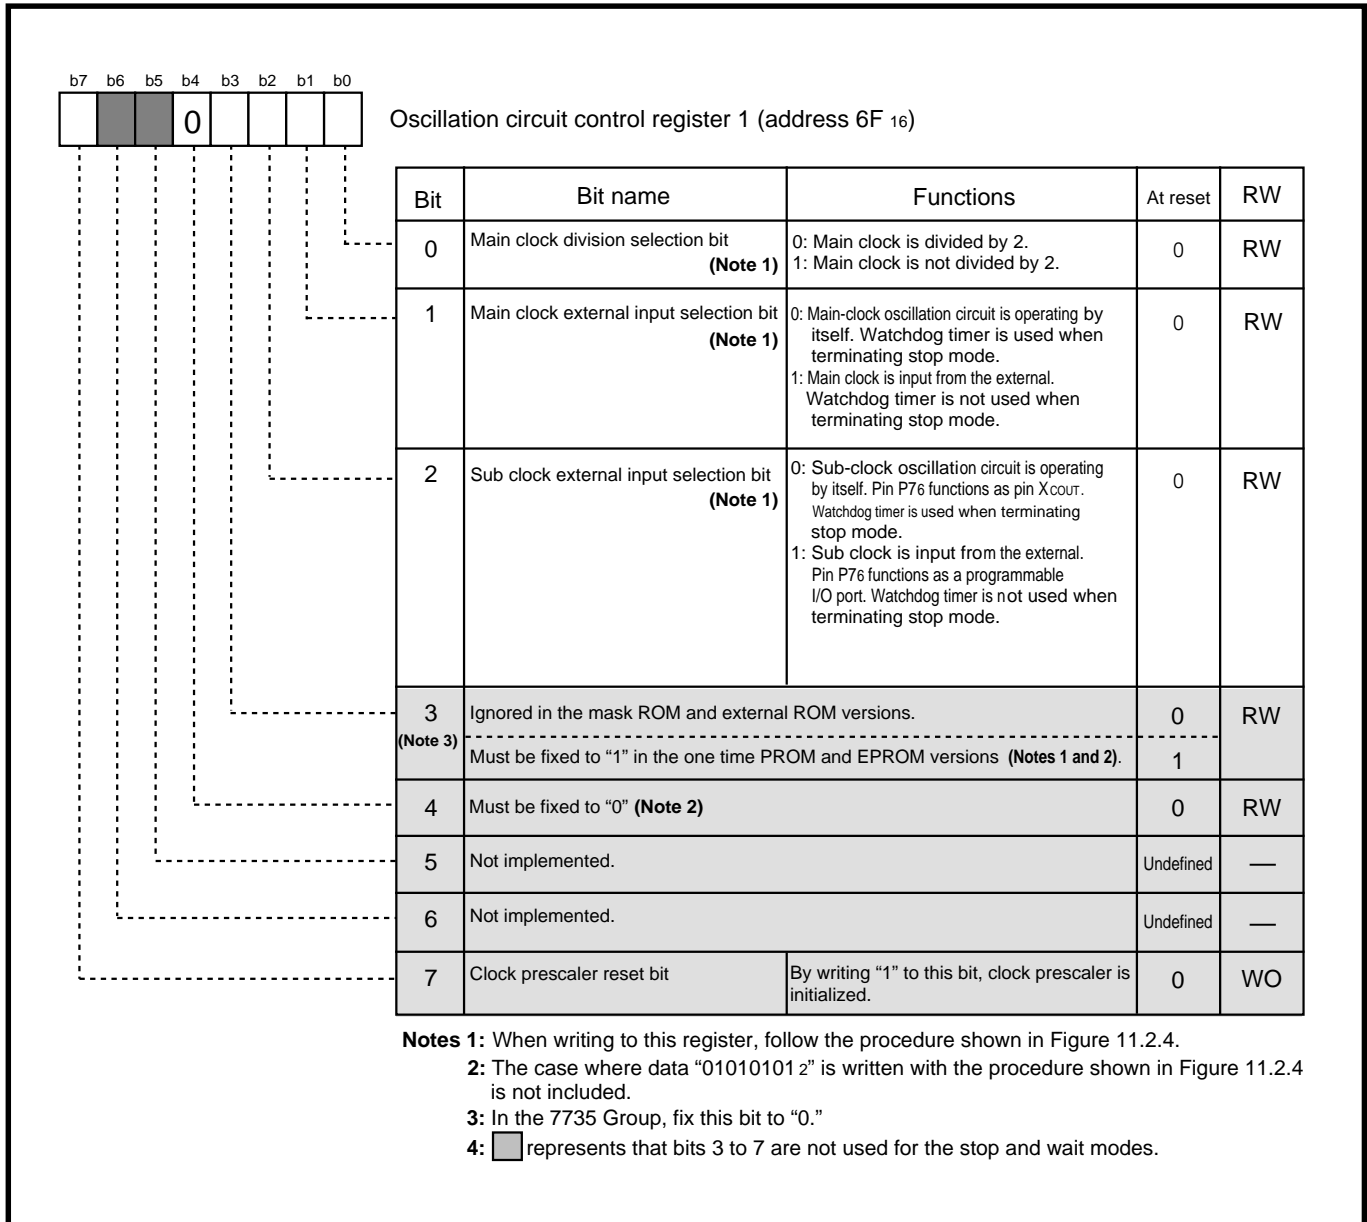

Fig. 11.2.3 Structure of oscillation circuit control register 1
(Refer to **Figure 11.2.3**, sections “**11.3.2 Stop mode terminating operation by interrupt request occurrence (when using watchdog timer)**” and “**11.3.3 Stop mode terminating operation by interrupt request occurrence (when not using watchdog timer)**.”)
- When the system clock is the main clock or the main clock divided by 8, set the main clock external input selection bit (bit 1 at address 6F16; Refer to **Figure 11.2.3.**) to "0." When the system clock is the sub clock, set the sub clock external input selection bit (bit 2 at address 6F16) to "0."
- When the system clock is the main clock or the main clock divided by 8, set the main clock external input selection bit (bit 1 at address 6F16; Refer to **Figure 11.2.3.**) to "1." When the system clock is the sub clock, set the sub clock external input selection bit (bit 2 at address 6F16) to "1."